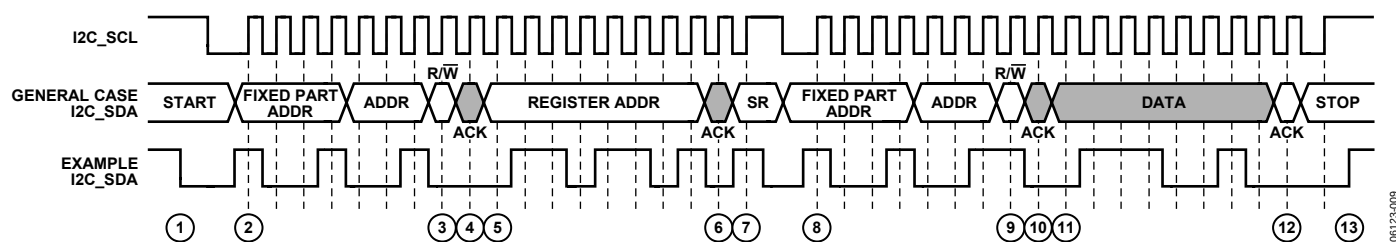

Figure 30. I²C Read Diagram
To read data from the AD8191 register set, an I²C master (such as a microcontroller) needs to send the appropriate control signals to the AD8191 slave device. The signals are controlled by the I²C master, unless otherwise specified. For a diagram of the procedure, see Figure 30. The steps for a read procedure are as follows:
9. Send the read indicator bit (1).
- 13a. Send a stop condition (while holding the I2C_SCL line high, pull the SDA line high) and release control of the bus to end the transaction (shown in Figure 30).